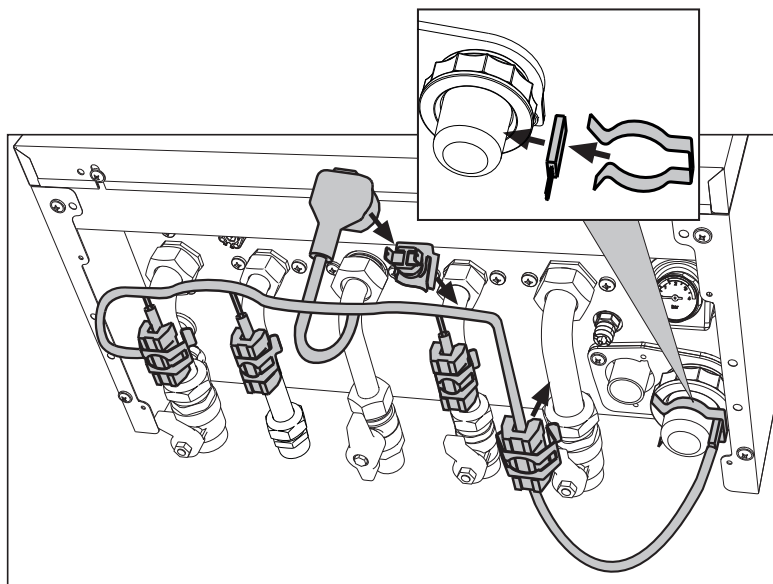

fig. 49- Frost protection kit
In case of installation outside in a place partially protected for temperatures below -5°C and to -15°C , the boiler must be fitted with the special frost protection kit for protecting the circuit. Connect the kit to the PCB as indicated in the wiring diagram in fig. 80 (ref. 288) and position the thermostat and heaters on the pipes as indicated in fig. 49 and in the instructions provided with the kit.